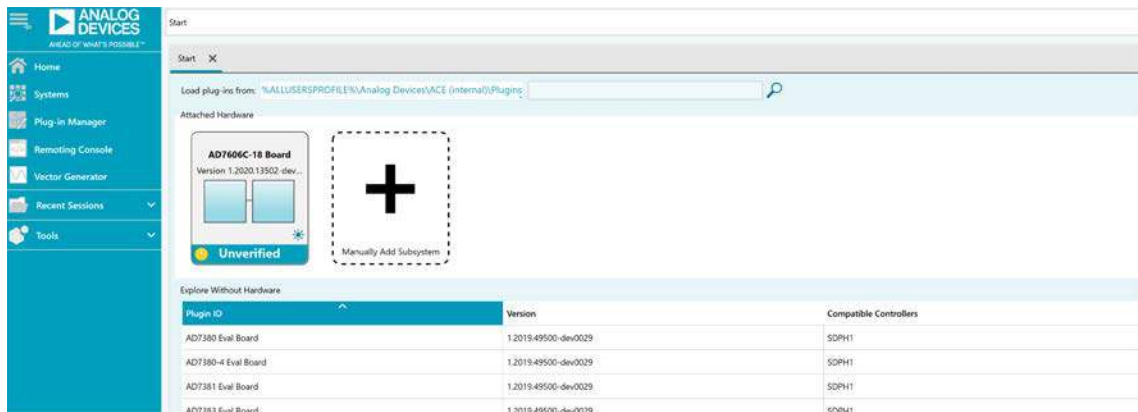

Figure 10. ACE Software Main Window
1. From the **Start** menu of the PC, select **All Programs > Analog Devices > ACE > ACE.exe** to open the ACE software main window shown in Figure 10.
2. If the EVAL-AD7606C18FMCZ is not connected to the USB port via the SDP-H1 when the ACE software launches, the **AD7606C-18 Board** icon does not appear in the **Attached Hardware** section in ACE (see Figure 10). To make the **AD7606C-18 Board** icon appear, connect the EVAL-AD7606C18FMCZ and the SDP-H1 to the USB port of the PC, wait a few seconds, and then follow the instructions in the dialog box that opens.